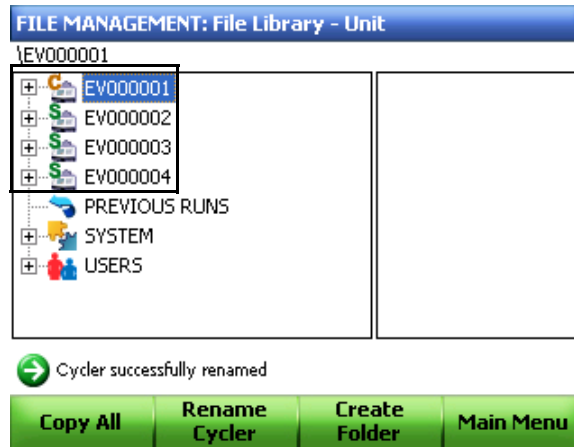

Figure 18. Three S1000 thermal cyclers are connected to the C1000 thermal cycler.
- Attached folders (optional) — contain the data on attached USB keys or S1000 thermal cyclers. Figure 18 shows three connected S1000 thermal cyclers